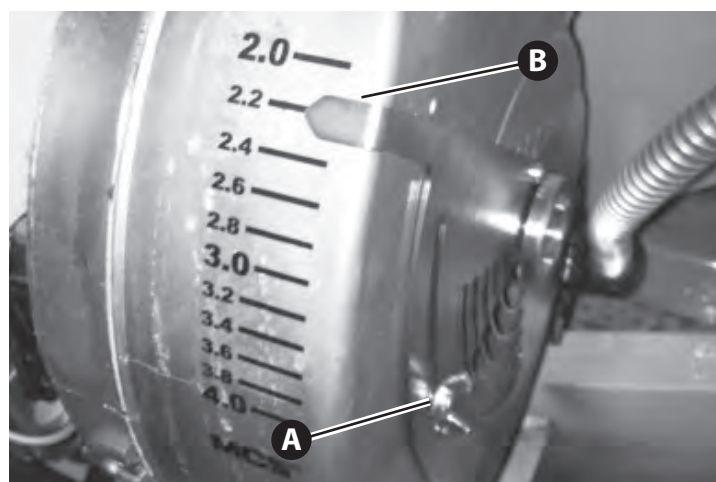

Figure 4.8
6. The damper is located below the power box. Loosen the wing nut (A, Figure 4.8), and set the damper by moving the pointer (B) to the number setting shown on the display. Tighten the wing nut.